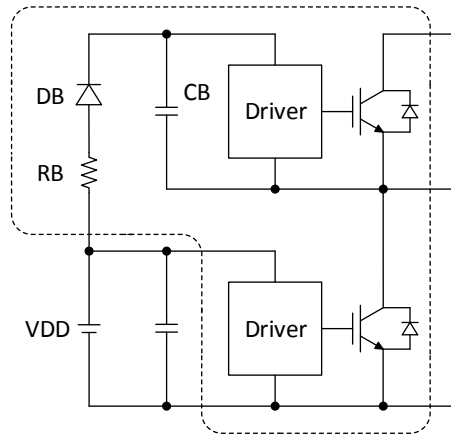

Figure 17. Boot Strap Circuit
**VB1, VB2, VB3** The VBx pins are internally connected to the positive supply of the high-side drivers. The supply needs to be floating and electrically isolated. The boot-strap circuit shown in Figure 17 forms this power supply individually for every phase. Due to integrated boot resistor and diode (RB & DB) only an external boot capacitor (CB) is required.